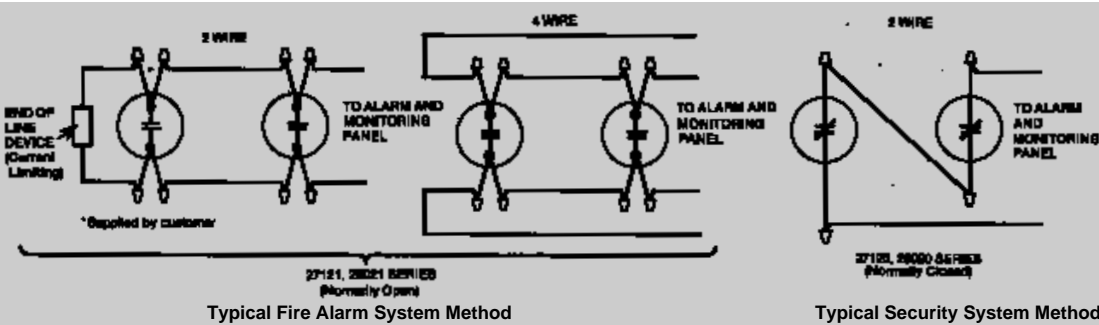

Figure 3: System Wiring
3. Connect system wiring to detector per Figure 3 and applicable electrical codes.